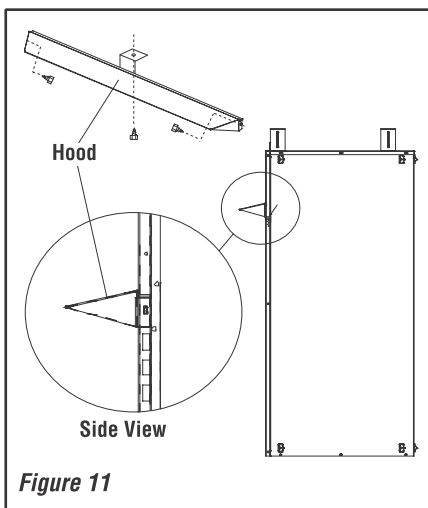

Figure 11
NOTE: A hood comes standard and is required. The factory-supplied hood must be installed on the firebox for safe operation in all installations. See Figure 11.
- Step 2.** Align the hood with the holes in the side frames as shown in **Figure 11**. Install three screws as shown in **Figure 11**. Make sure hood is level and secure.